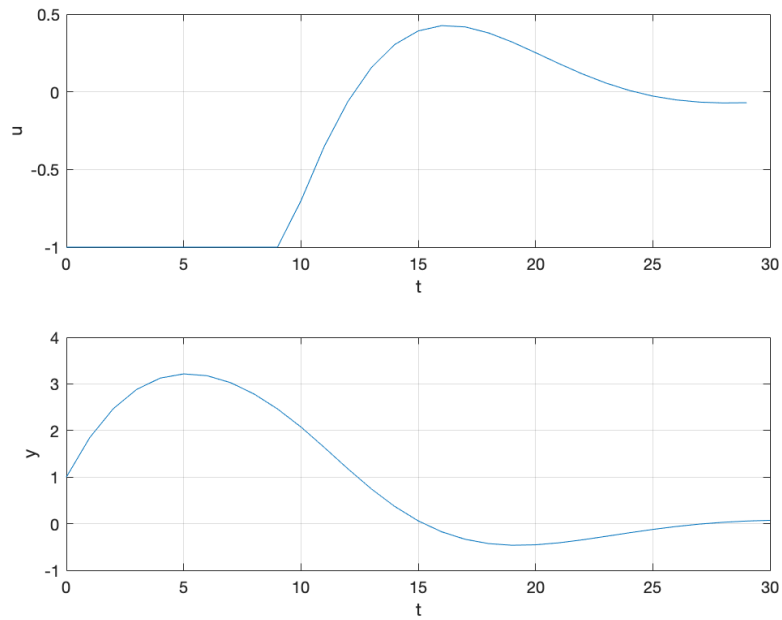

Figure 8:  $u_t$  and  $y_t$  for MPC with horizon of 30 and different plant between MPC model and simulation.
- c) The resulting plot is found in Figure 8. As we can see the MPC must use more input into the system and it doesn't get the  $y_t$  to zero before  $t = 30$ , this